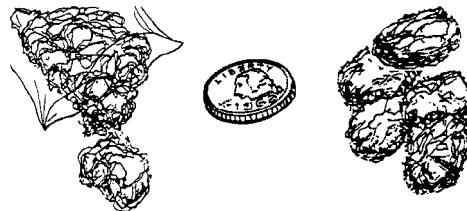

Figure 5
Step 3. Separate the glowing embers (rockwool) into pieces about the size of a quarter (see **Figure 5**). Keep the pieces fluffed, not matted. Distribute these pieces over the burner as shown in **Figure 6**. Do not use more than necessary. When properly positioned, the Glowing Embers will cover approximately 75% of the burner on natural gas. For propane gas, do not place embers on main ports.